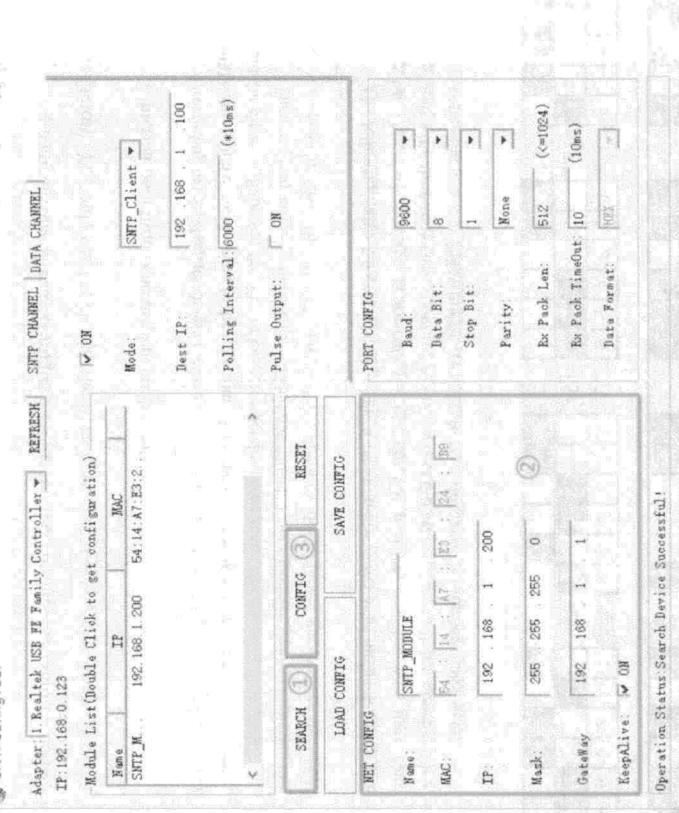

Figure 1 Search device diagram
1. Open the configuration software, select the corresponding network card, and click "Search Module". The module list will display the modules within the subnet, as shown in Figure 1.